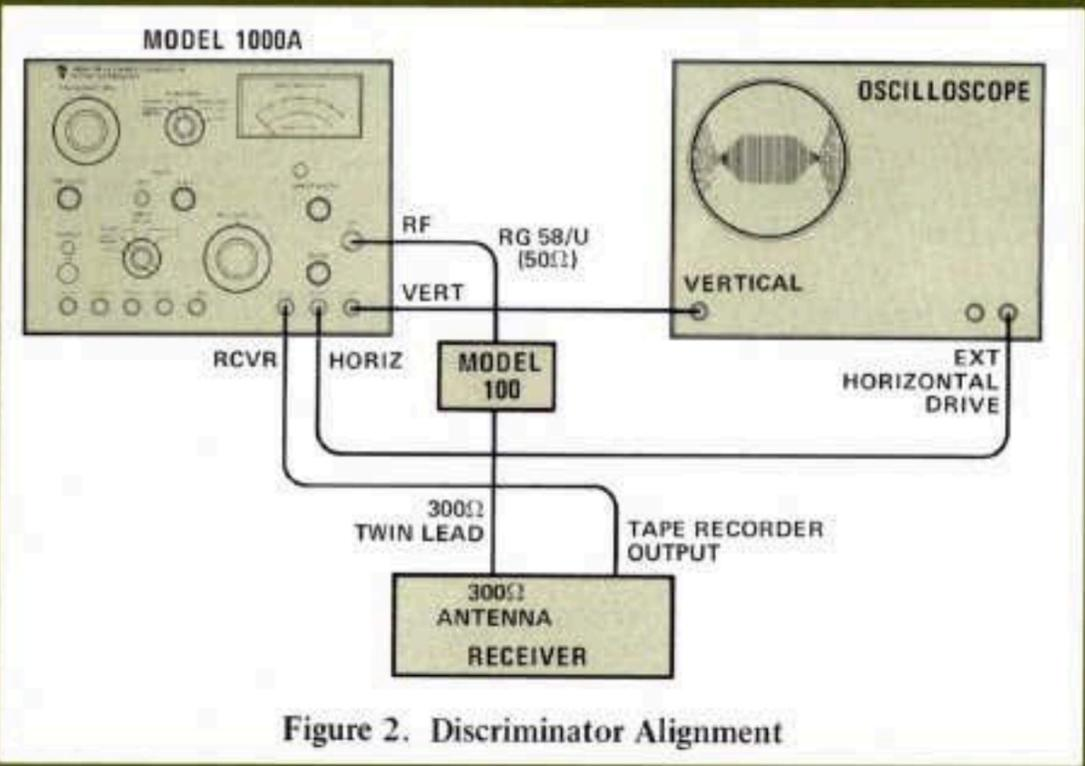
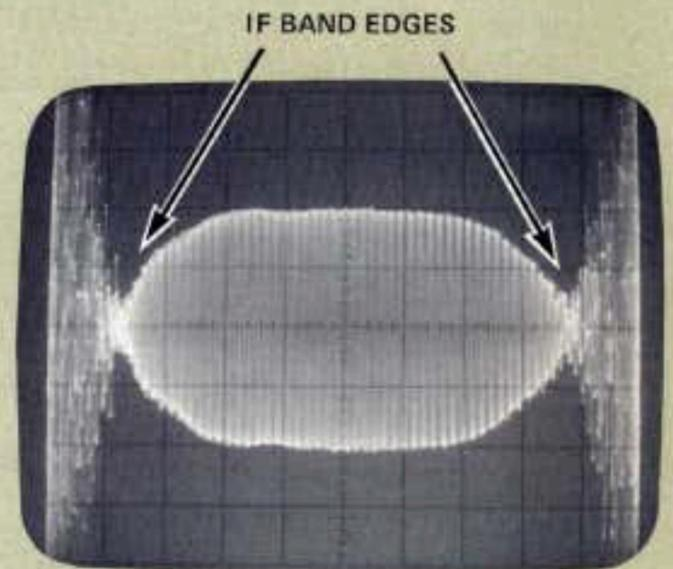

Figure 2. Discriminator Alignment
Figure 5. Dual Sweep Response (Detector Alignment)
Connect the equipment as shown in Figure 2, and set the 1000A and receiver controls as described in the Alignment Chart, Step 5. Tune the 1000A to obtain the scope pattern shown in Figure 5.
4. For receivers with fixed-tuned IF's, adjust the 1000A FREQUENCY so the IF center frequency corresponds with the center of the scope sweep display. The DUAL SWEEP pattern will fall to zero at the edges of the IF bandpass (Figure 5). Fine tune the 1000A until the middle portion of the DUAL SWEEP pattern is centered on the scope. Leave the 1000A tuned to this frequency while adjusting the discriminator and peak-tuning meter. If the discriminator is badly misaligned, some preliminary adjustment may be required while finding the IF center frequency.